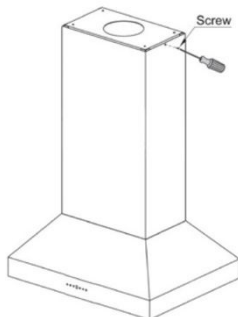

Figure 5.
- Slide top chimney piece up over the Upper frame on the ceiling and secure it in place with the provided screws. *Figure 5*